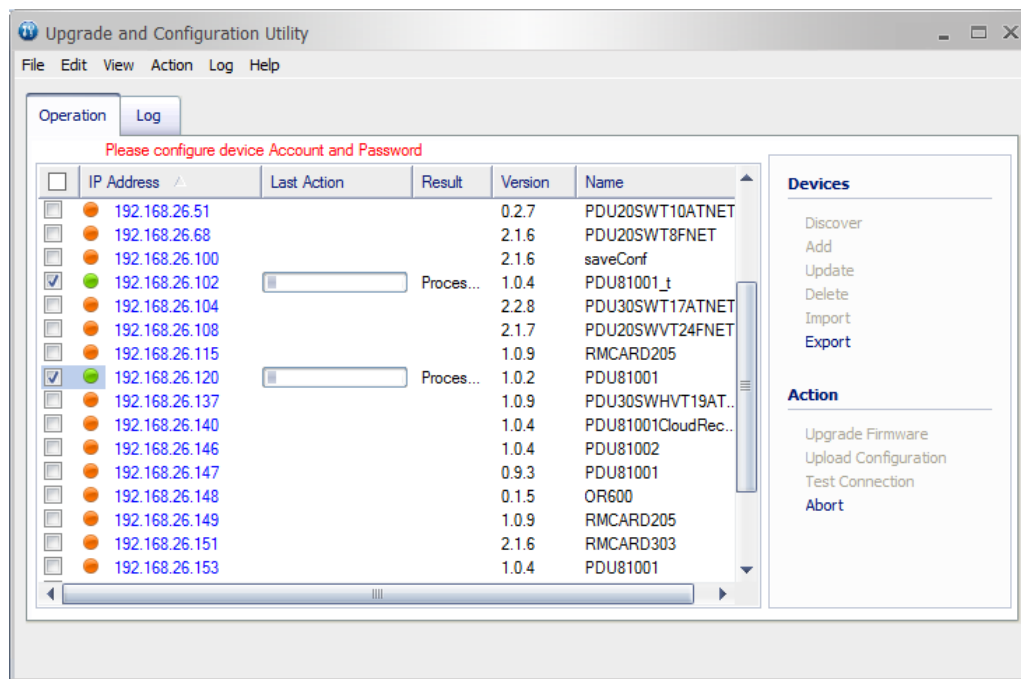

Figure 6.
11. The upgrade progress bar will show in **Last Action** column (shown in Figure 6.).